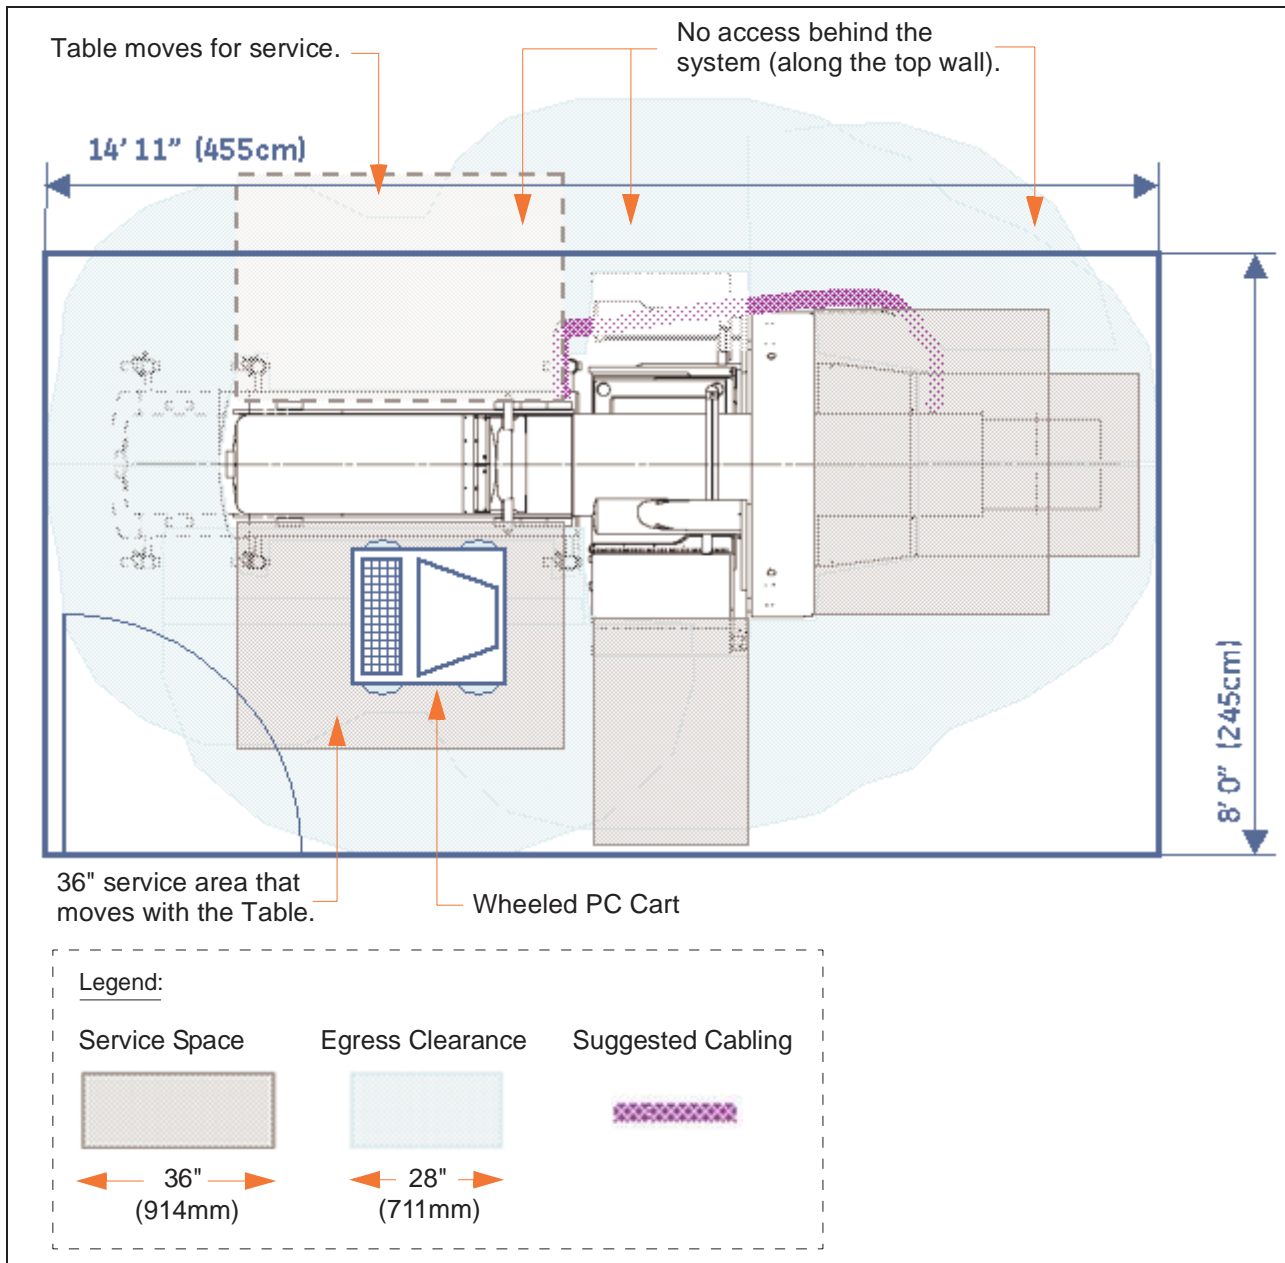

Figure 3-2: Minimum/Typical Room Layout
Figure 3-2 shows a typical (standard) room layout drawing showing location of all basic units for a Millennium MyoSIGHT system. Observe that requirements for clinical access, and for peripheral clinical equipment placement, such as storage cabinets, sinks, etc., must be taken into considerations during the room layout.
- All gantry service done on the right side as shown in Figure 3-2.
- Table moves for rear and side service access, as shown in Figure 3-2.